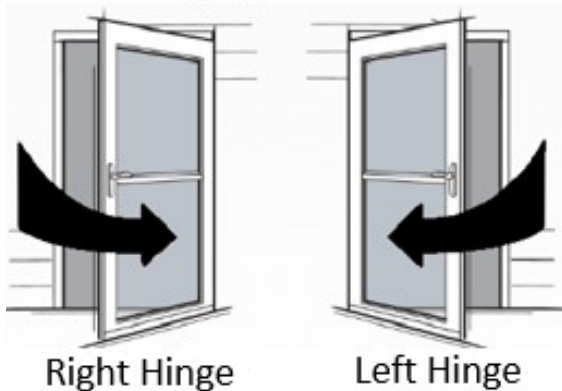

FIGURE 2
3. **MEASURING FOR HINGE RAIL:** To attach the hinge rail you must measure the overall inside opening where you are installing the storm door. To get this, you will need to get the measurement in (Figure 2) spot A. With a tape measure start from the top of the door sill / (threshold) and come up to the bottom side of the brickmold. Once you have your measurement, subtract a 1/8" off of it to allow clearance for the storm door header rail. This will be the length you want to cut the hinge rail to. So: $(A) - 1/8" = \text{Hinge Rail Length}$
10. **CUTTING THE LATCH RAIL:** Using a tape measure check the length of the latch side by measuring from the top of the door sill to the bottom of the drip cap. Similar to (Figure 2). It should be very close to the length of the hinge rail. After double checking this length use your tape measure and pencil to mark where you are going to cut the hinge rail. Using a fine tooth hack saw make your cut on the hinge rail / (threshold). For a nicer look make your cut the same angle as the slope of the door sill / (threshold).
18. CLOSER INSTALL (FIGURE 2): Slide the hold open washer on to the rod, with short connecting pin connect closer to jamb bracket. Pull closer out slightly to position hold open washer over lugs and against tube. **Do not change until installation is complete.**
21. SAFETY CHAIN INSTALL (FIGURE 2): Mount 2nd bracket on top of door 19" from hinge side of door in horizontal position. This allows for a 90 degree opening of door, if more than a 90 degree opening is desired move both brackets closer to hinge side of door.